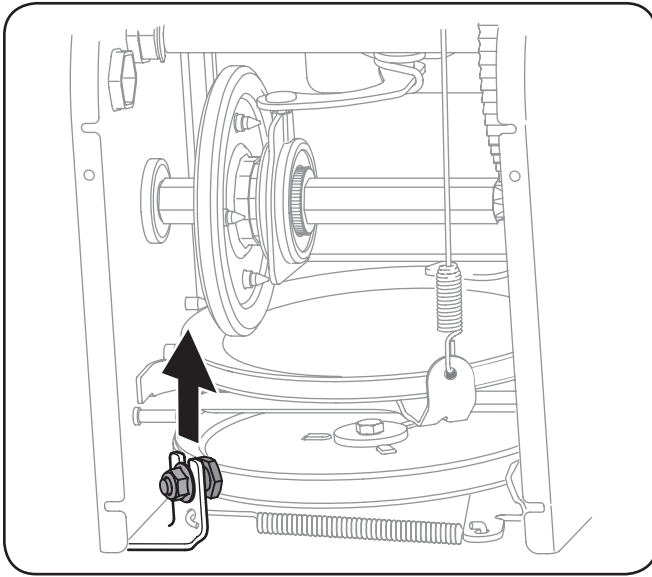

Figure 7-5
6. Loosen and remove the shoulder bolt which acts as a belt keeper. See Figure 7-5.